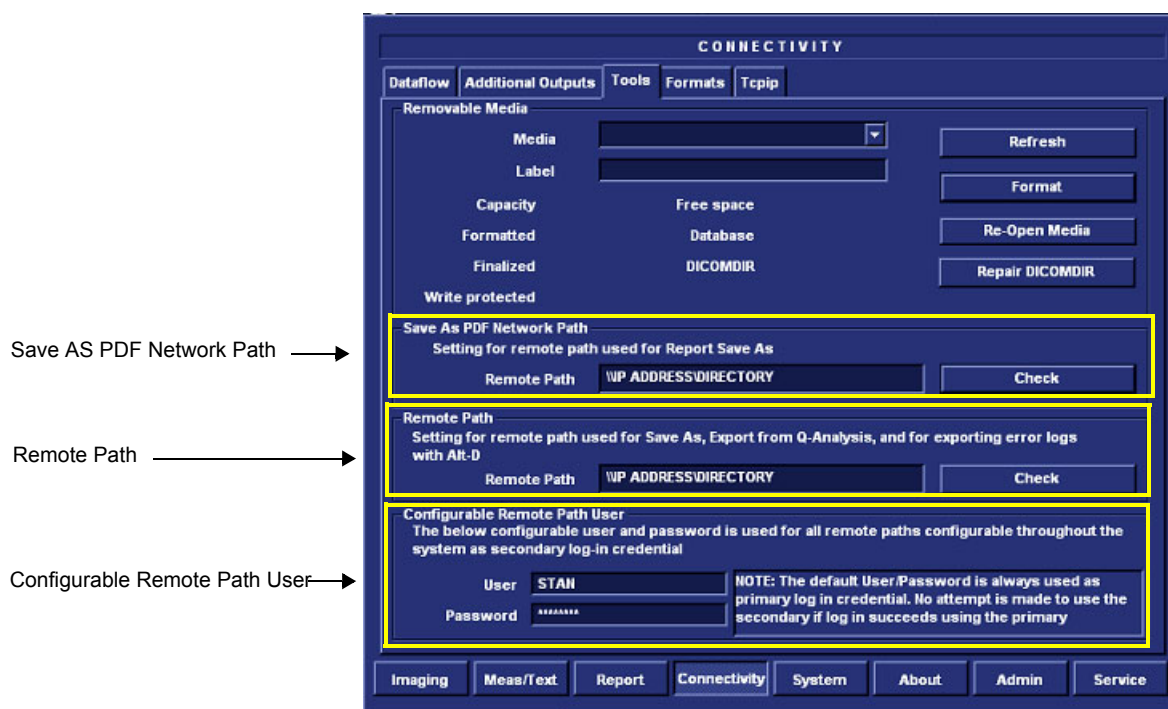

Figure 3-110 Tools Screen
NOTE: The paths below (refer to Figure 3-110) are used as follows:
The Tools screen opens - see Figure 3-110.
For example, in Figure 3-110 type: \\IP ADDRESS\DIRECTORY, where directory is the name of the shared folder in the destination PC.
- Under Configurable Remote Path User (refer to Figure 3-110), type the desired user name and password, as configured on the destination PC.